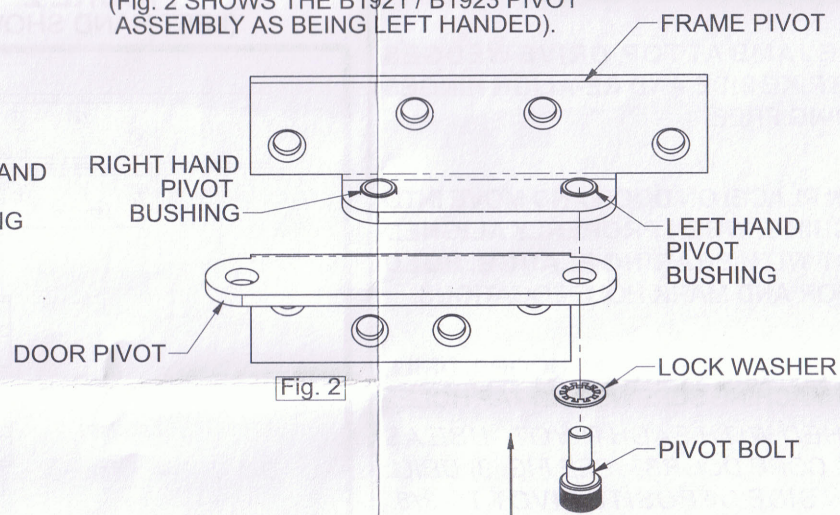

Fig. 2
- REPOSITION THE DOOR PIVOT USING THE ALTERNATE BUSHING ON THE FRAME PIVOT. (Fig. 2 SHOWS THE B1921 / B1923 PIVOT ASSEMBLY AS BEING LEFT HANDED).